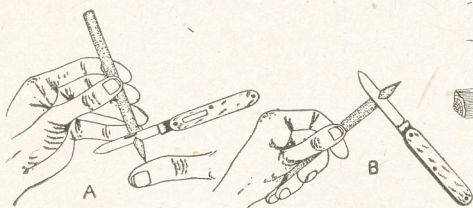

Fig. 1—Sharpening a pencil—wrong and right
cated in view Fig. 1 (B) with the knife blade working in a direction away from your thumb or fingers. You will by this method also get a much better point on your pencil.
Care should also be taken when using your pocket knife, since it is quite an easy matter to cut your fingers. As an example, in sharpening a pencil, the following hint will prevent cutting your thumb. In Fig. 1 (A) is shown a common method of sharpening a pencil which can easily result in a cut thumb. The pencil point rests on the thumb as indicated, and the knife is shown cutting the wood towards the thumb. Any slip of the knife if a pencil is sharpened in this manner will result in a cut.